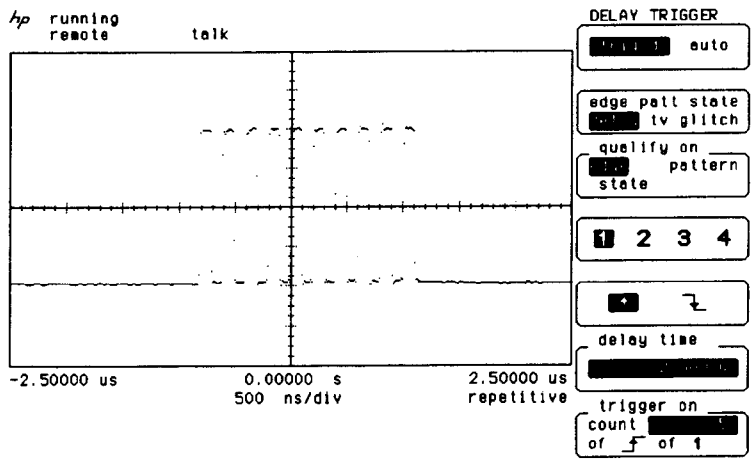

Figure 6-16. Ten Burst Pulse Triggered on Pulse 5
- Return to the trigger menu and set trigger on count to 5. This tells the oscilloscope to trigger on the 5th rising edge of the next burst (see Figure 6-16).